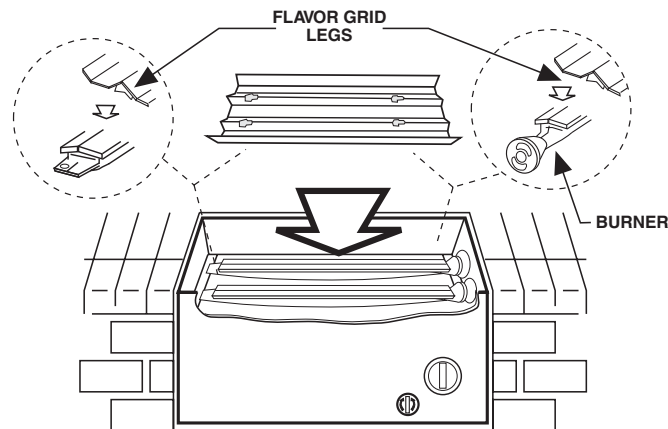

Figure 4 - Flavor Grid Diagram
**d.** Using a flat blade screwdriver, pry the burner retaining clip from rear wall of the barbecue frame (see Figure 4). Remove the burner by; A) Pulling it to the front of the barbecue, B) Lift the far end out of the notch, C) Pull the burner away from the manifold, taking care not to lose air shutter and spring, which may become detached when the burner is removed.
a. Place the flavor grids directly on the burners, centering the grids over the burners with the open side up (Figure 4). This allows heat from the burners to be evenly distributed throughout the cooking area.